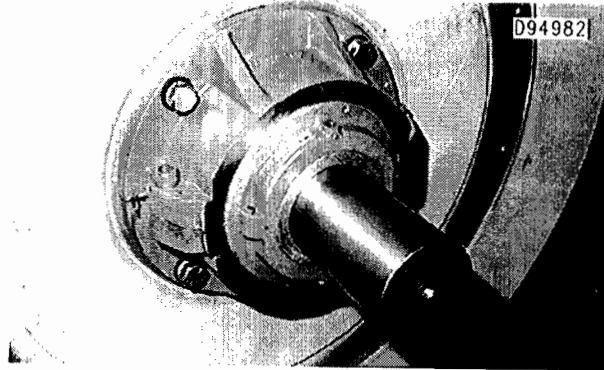

Figure 21
9. Using a crane or hoist on the generator shaft, assemble the flanged cap and seat in the recess in the endbell. The half with the threaded holes for the joining bolts goes on the bottom. The boss on the cartridge must enter the recess in the flanged cap. On the drive end, the halves must be tilted into place over the cartridge while at the same time inserting their mating surface in to the endbell recess. On the exciter end, where there is an expansion race, the two halves can be placed together and then the entire bearing assembly moved inboard to seat in the endbell. Allow the spherical seating to self-align before doing the final tightening of the joining bolts in the flanged cap. See figure 21.